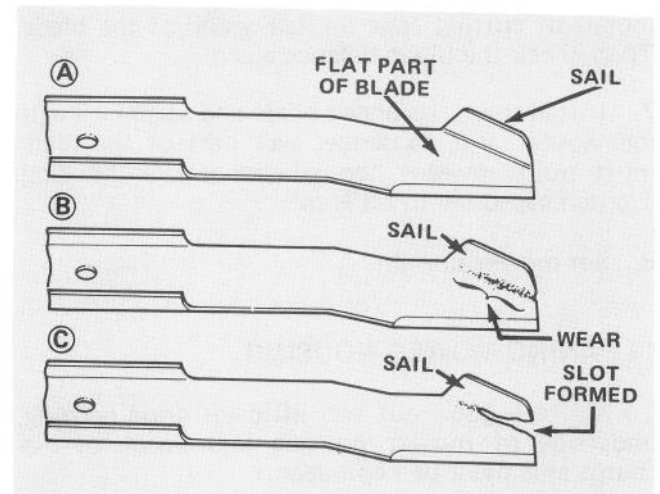

Figure 32
3. Examine cutting ends of the blade carefully to determine whether it needs to be sharpened or replaced (Fig. 32).